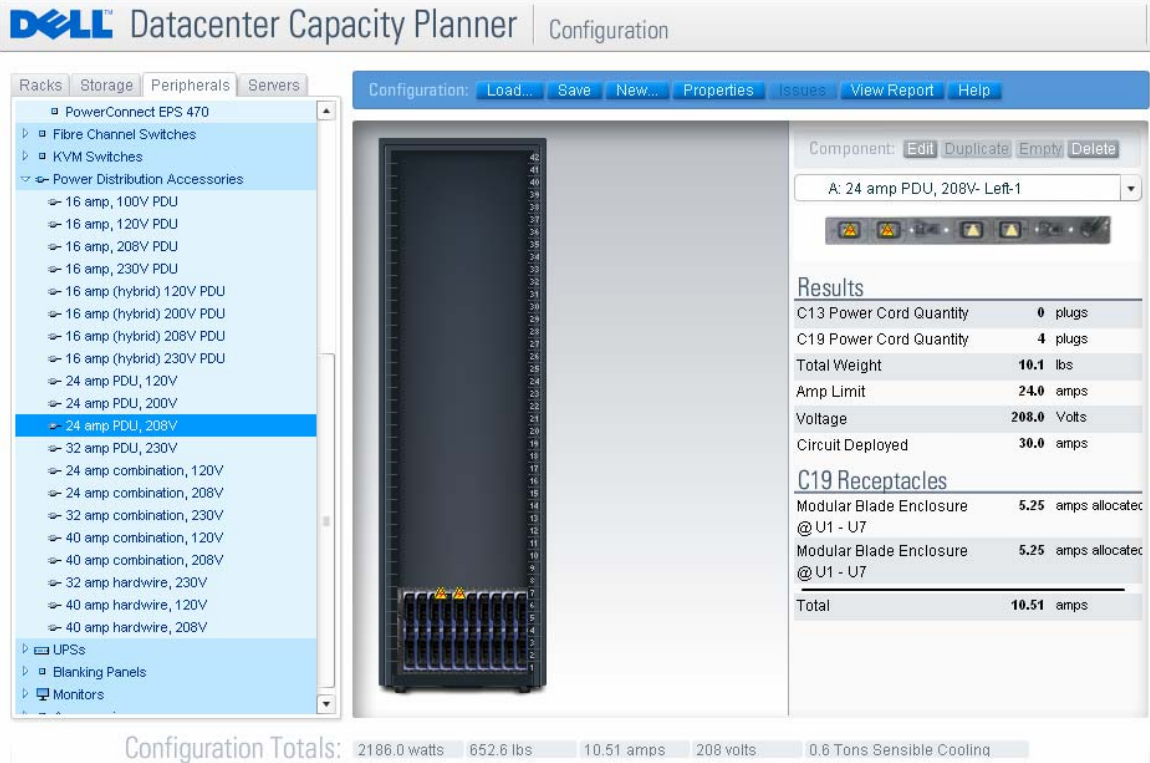

Figure 5 – Configuration with PDU Assigned to Systems
- o Once you click on OK and the changes are made (see Figure 5), two plugs have disappeared from the system (the triangles), and two plugs on the PDU have been highlighted (used). This particular PDU was renamed to “Left-1” to indicate a positional nomenclature of the user’s choice. Likewise, the other PDU could be set up to accept the remaining two plugs of this server.
The PDU information is included in the rack reports through the report entitled “Servers by PDU.” This report gives a tabular explanation of current connectivity; for the example above it shows that plugs A and B are plugged into a PDU named “Left 1.” Each socket is drawing 2.63 amps during normal operation and 5.25 during the failure of one AC feed. The other two plugs are connected to the second PDU that wasn’t renamed in this example. If two higher power blade chassis were connected to a single PDU, the PDU capacity would be surpassed giving a warning like that shown in Figure 5.